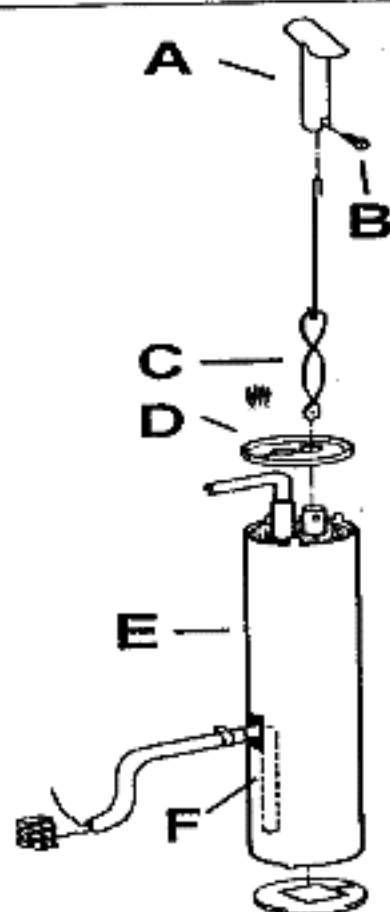

Fig. 9
1. Remove the refrigerator out of the recess as described in item 22c.
2. Remove the boiler insulation cover (D in fig. 9) and remove the boiler insulation (E in fig. 9).
3. Disconnect the faulty heater (F in fig. 9) from the terminals and remove it from the metal pocket on the boiler.
6. Connect the heater leads to the terminal block and switch as before and re-install the refrigerator. Check for gas-leaks in accordance with item 12 and test the fridge for satisfactory operation.